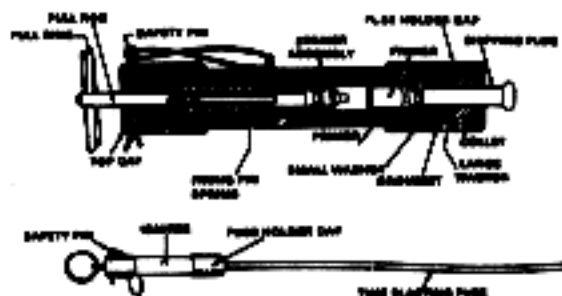

Figure 15-5. M60 fuse igniter
(10) Attach M60 fuse igniter (figure 15-5).